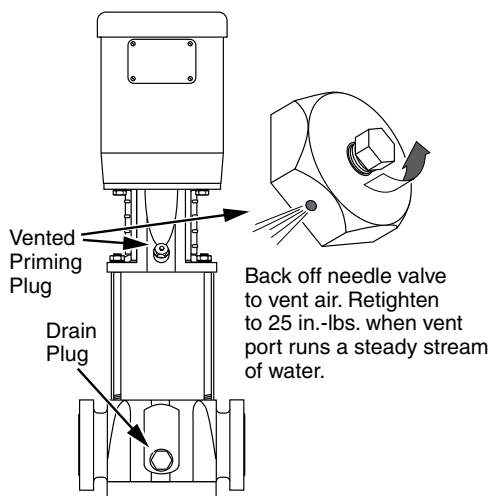

Figure 8 - Priming and Drain Plugs
1. Close the discharge isolating valve and loosen the needle valve located in the assembly in the pump head (Figure 8). Do not remove the needle valve.